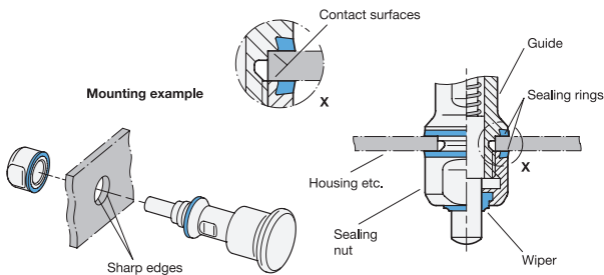

Fig. 2
- The mounting hole must be made such that the metal recesses within the sealing rings rest as fully as possible against the underlying surface to enable tensioning against the block (metallic stop) (tolerance of  $+0.05/+0.2$ ). The sealing rings must rest fully against the underlying surface (Fig. 2).